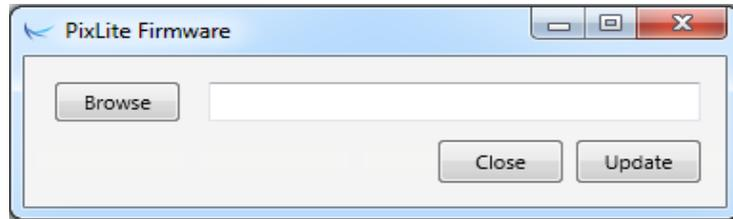

Figure 14
4. Using the Advatek Configuration utility, click search in the main window and you should see the controller appear with “bootloader” in the firmware column. Double clicking on it will bring up the file browse window as shown in Figure 14.